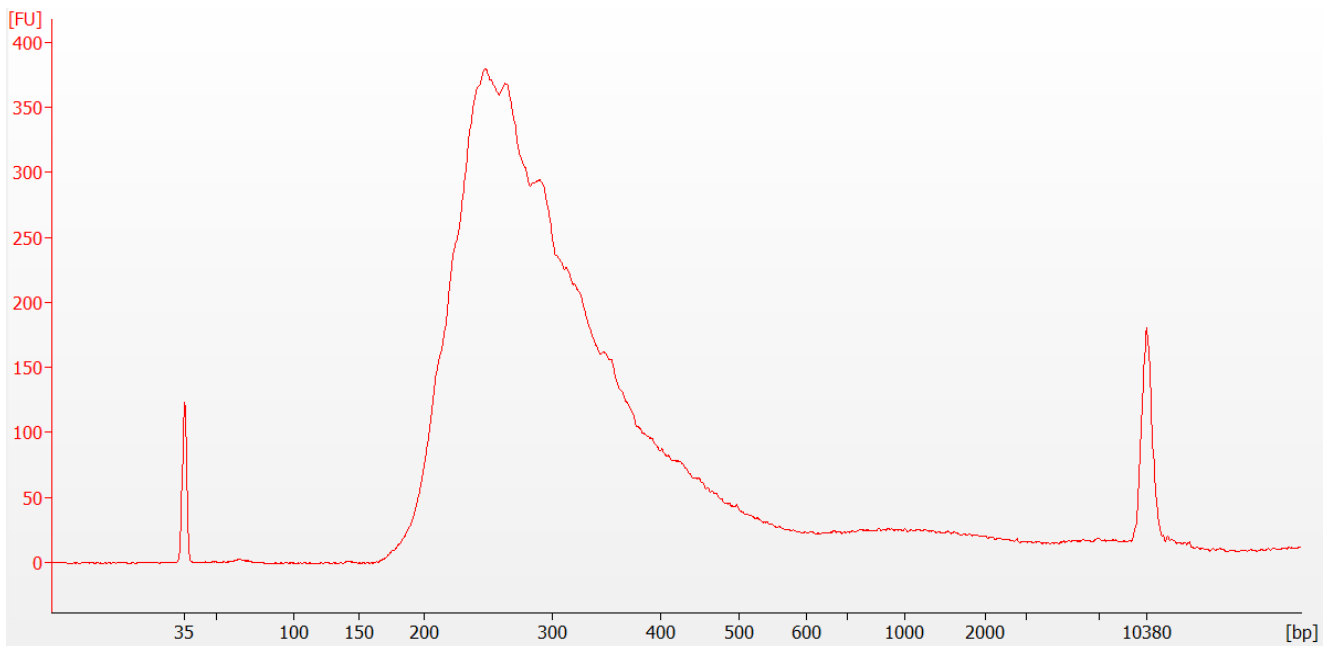

Figure 3: Example of an Amplified RNA HyperPrep Sample Library analyzed using the Agilent Bioanalyzer High Sensitivity DNA assay.
- Pre-Capture libraries should have an average fragment size distribution at ~ 300 bp (Figure 3) with a range setting at 150 to 1000 bp on the Bioanalyzer. Sharp peaks may be visible in the region <150 bp. These peaks correspond to unincorporated primers, primer-dimers or carryover adapter dimers and will not interfere with the capture process.